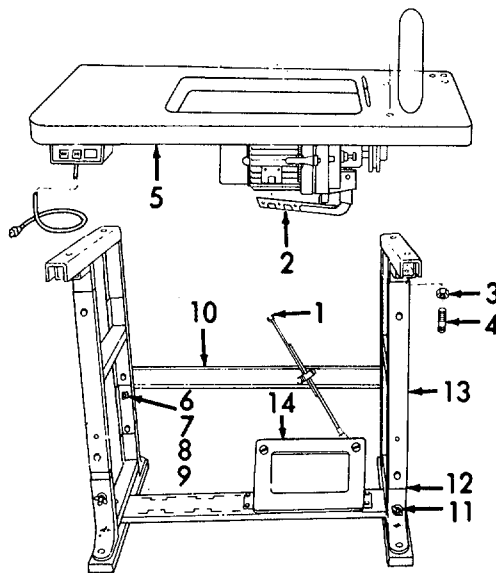

Figure 2-64. Darning Sewing Machine Table, Disassembly.
- (8) Remove three wood screws (17) and bobbin winder (18). Stow bobbin winder in storage box number 3.
- (9) Loosen thumbscrew (19) and tilt head back.
- (10) Remove pulley belt and stow in storage box number 3.
- (11) Remove light assembly from table top and strap to motor with strap provided.
- (12) Remove three nuts (20), three washers (21), and three bolts (22). Stow hardware into sewing machine (23) base.
- (13) Close machine head and secure with thumbscrew (19).
- (14) Place sewing machine head into tray labeled 678HD.
- (15) Fold strap over machine head.
- (16) Connect and tighten wingnut.
- (17) Push tray back into cabinet.
- (18) Refer to Figure 2-64. Disconnect treadle rod (1) from clutch arm (2).